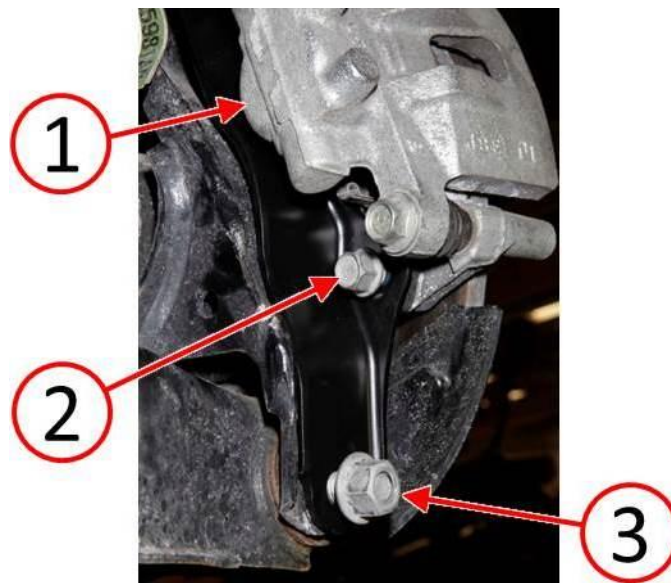

Fig. 3 Install Rear Brake Caliper
9. Install the brake caliper with caliper adapter (1) (Fig. 3).
10. Install by hand but **do not tighten** both of the **NEW** longer caliper anchor mounting bolts (2) included with the anti-vibration bracket service kit (Fig. 3).
11. Install by hand but **do not tighten** the **NEW** upper and lower control arm nuts (3) included with the anti-vibration bracket service kit (Fig. 3).